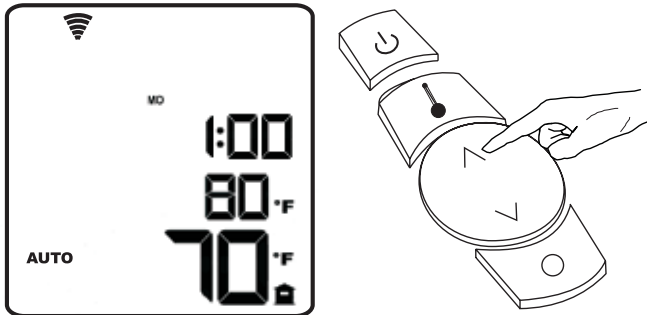

Figure 13
3. Use the adjustment arrow button on the remote to set the desired room temperature. See Figure 13.